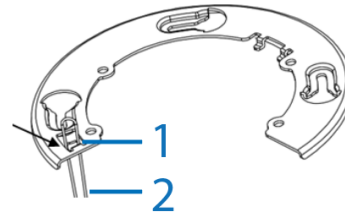

Figure 7
- Insert the safety wire (2) (Figure 7) onto the 'hook' (1) (Figure 7) on the flat bracket.